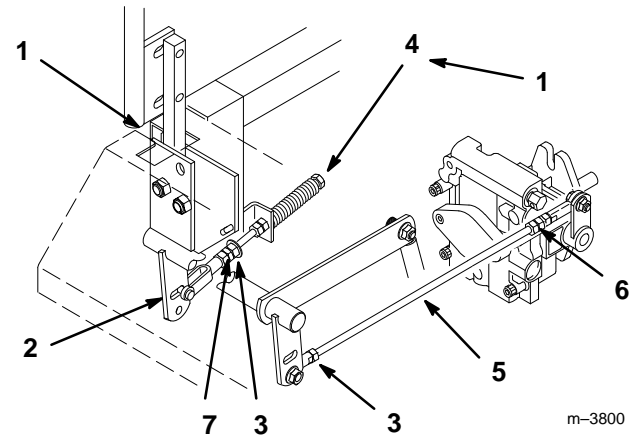

Figure 39
2. Begin with either the left or right motion control lever. Move lever to the neutral (but not locked) position and pull lever back until the clevis pin (on arm below pivot shaft) contacts the end of the slot (just beginning to put pressure on spring) (Fig. 39).
3. Check where lever is relative to notch in console (should be centered allowing lever to pivot outward to the neutral lock position) (Fig. 39).
12. Loosen locknut at ball joint on pump control rod (Fig. 39).
13. Adjust pump rod length by rotating double nuts on rod, in the appropriate direction, until wheel is still or slightly creeps in reverse (Fig. 39).